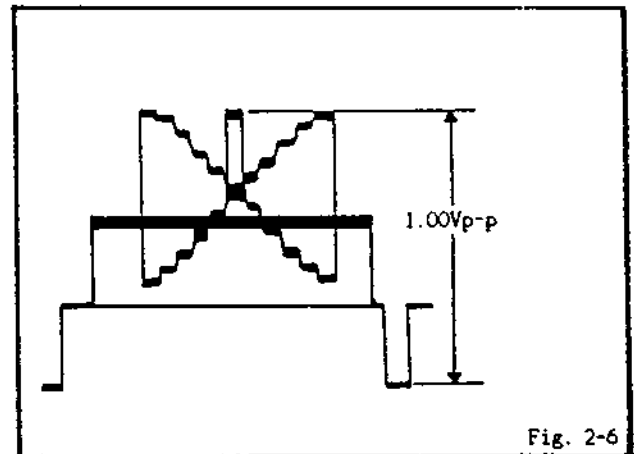

Fig. 2-6
4. Adjust VR8008 so that the waveform measures  $1.00 \pm 0.05 \text{Vp-p}$ . (refer to Fig. 2-6)